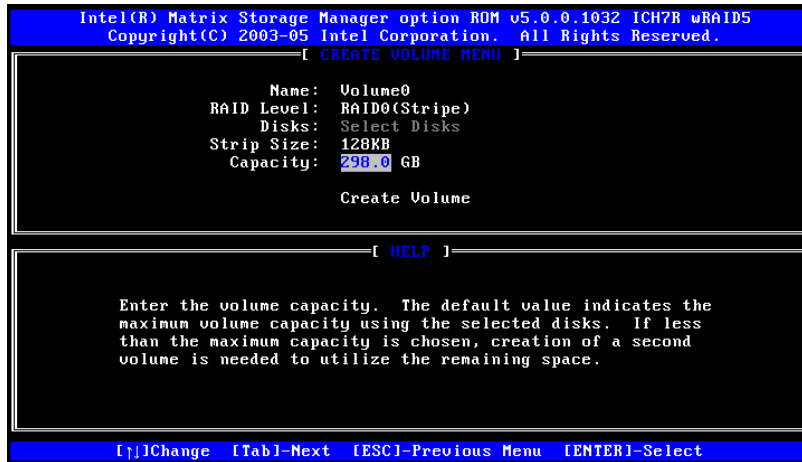

Figure F-5: Enter the Volume Capacity
Step 5: Enter the Volume Capacity. Enter the volume capacity, or press **ENTER** to accept the default capacity. See **Figure F-5**.